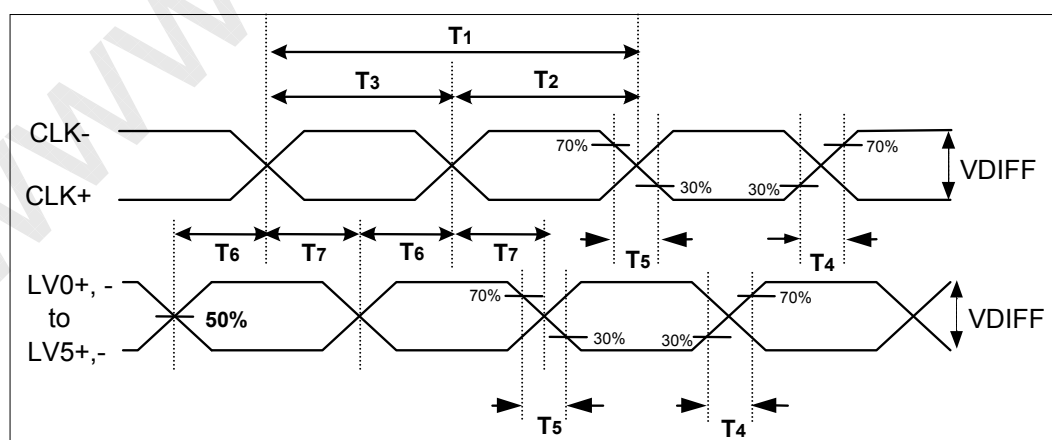

FIG 4. Source D-IC Input Data Latch Timing Waveform
3. Viewing angle is the angle at which the contrast ratio is greater than 10. The angles are determined for the horizontal or x axis and the vertical or y axis with respect to the z axis which is normal to the LCD module surface. For more information, see the FIG. 4.